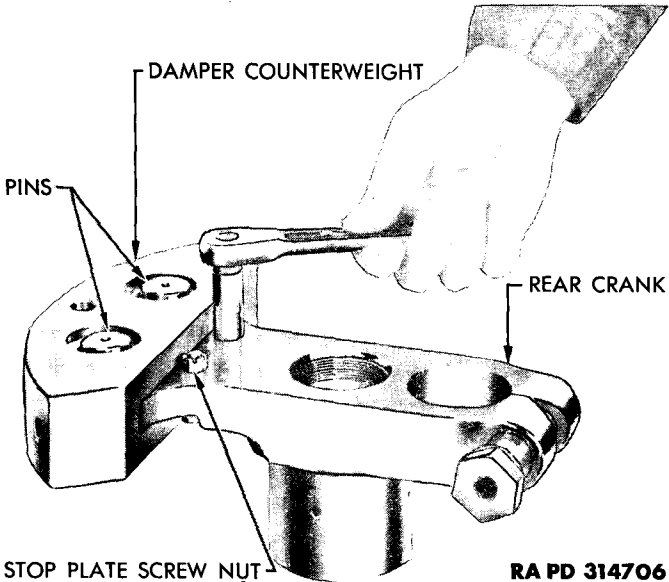

Figure 124 – Loosening Nuts Securing Rear Crank Stop Plate Bolts
g. Remove Dynamic Damper. Remove cotter pins from two nuts and bolts holding damper counterweight stop plate to rear crank. Loosen and remove nuts (fig. 124). Turn crank over and lift out stop plate. Slide damper counterweight up on crank until flanged pins are opposite wider openings in crank. Push out flanged pins and remove damper counterweight from crank.